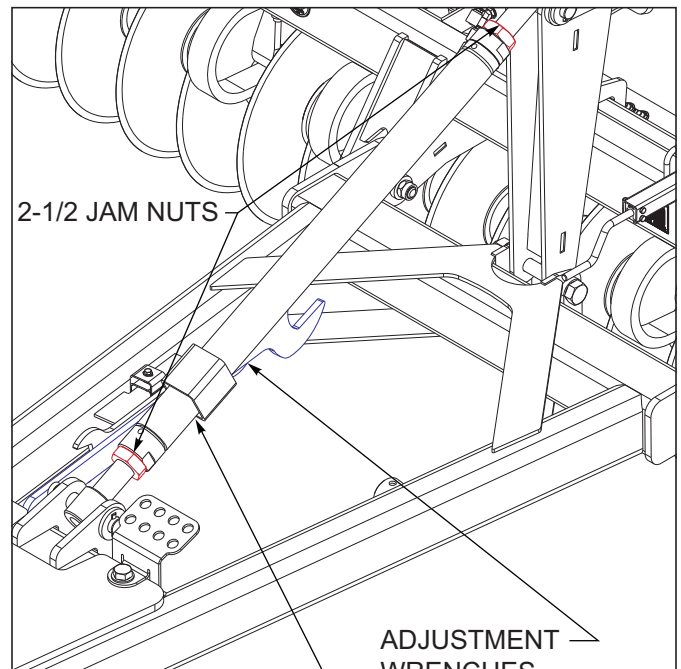

Figure 4-3: Radius Rod Leveling Adjustment
1. Raise the unit to take the weight off of the transport locks. Remove the transport locks from the lift cylinders (on both left and right sides). Store the transport locks on the retainers above the main lift See Figures 4-3.
3. To adjust the leveling feature, loosen jam nuts at each end of the radius rod using the adjustment wrenches See Figure 4-3. To raise the front of the Coulter Chisel, lengthen the radius rod assembly. To lower the front of the Coulter Chisel, shorten the radius rod assembly. After adjusting, re-tighten jam nuts at each end. Adjustments should be made in small increments.